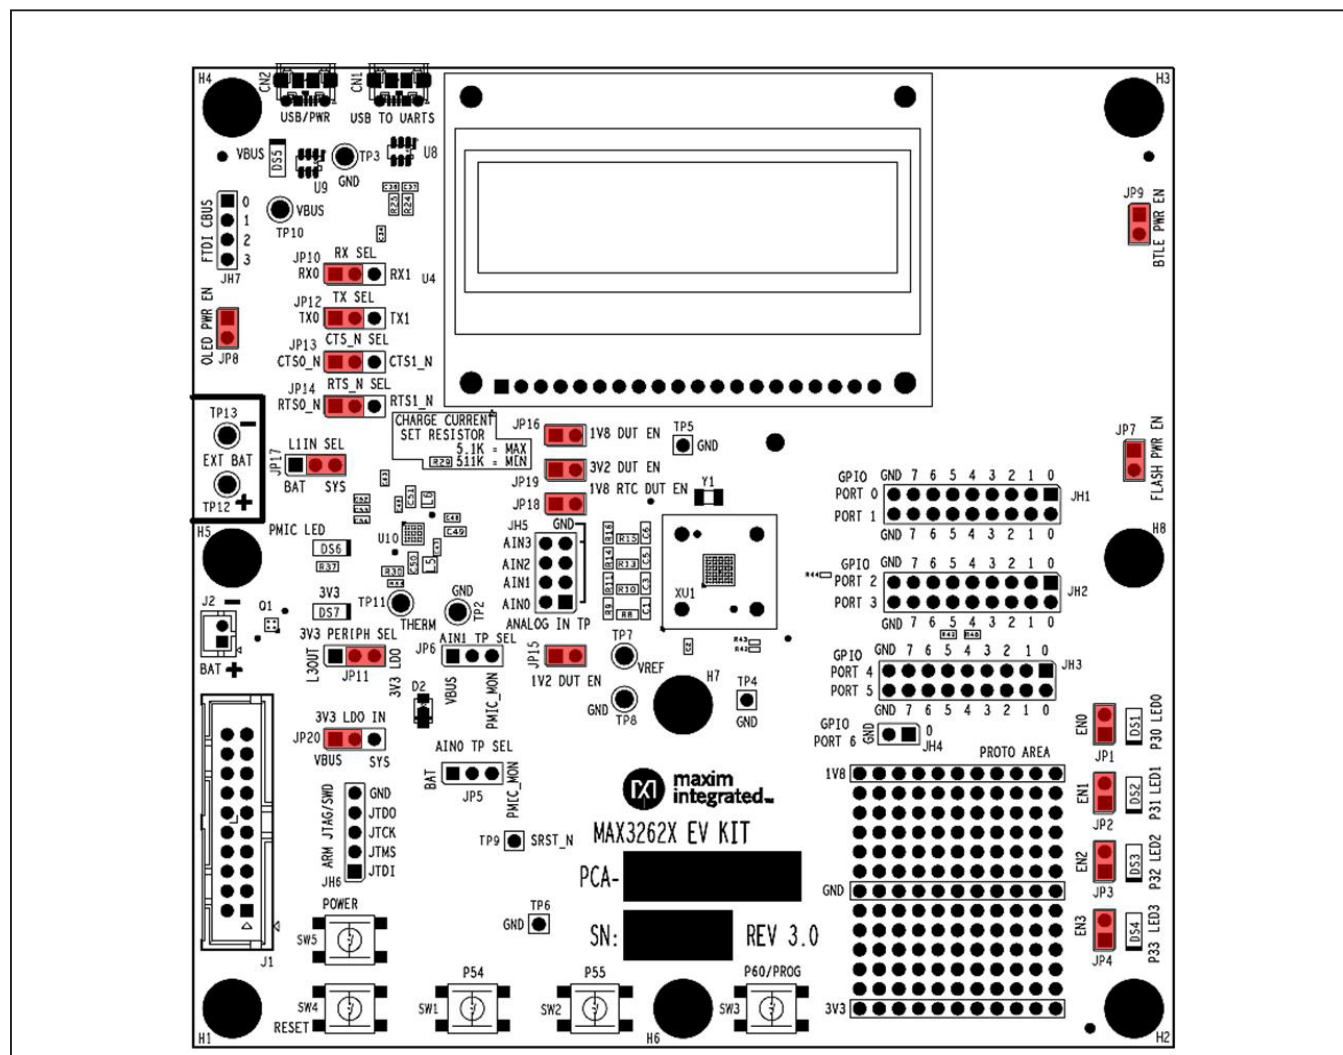

Figure 4. Default Jumper Placement
- 1) While observing safe ESD practices, carefully remove the EV kit board out of its packaging. Quickly inspect the board to make sure that no damage occurred during shipment. Jumpers/shunts were pre-installed prior to testing and packaging. By default, they select the USB interface as the source of power for the EV kit board. See Table 1 and Figure 4 for the default jumper settings and descriptions.
Table 1 details the functions of the configurable jumper headers on the EV kit board. The headers are standard 0.1in spacing, 0.025in posts. Settings in Table 1 marked with an asterisk (“*”) indicate default placements. Figure 4 also shows the default placements highlighted in red.